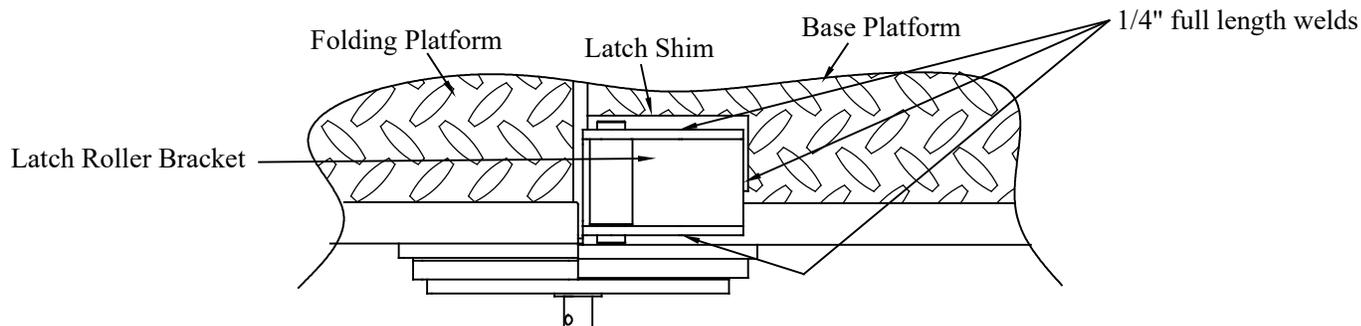

Figure 13: Latch roller on platform (top view, passenger side).
27. **Weld** a 1/4" weld the full length on the 3 sides shown attaching the latch roller bracket to the platform (Figure 13).